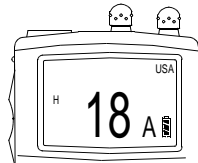

Figure 10. Display Showing Channel Unlocked
- e. Make sure that the key lock symbol is no longer displayed (figure 10), showing that the channel is unlocked.